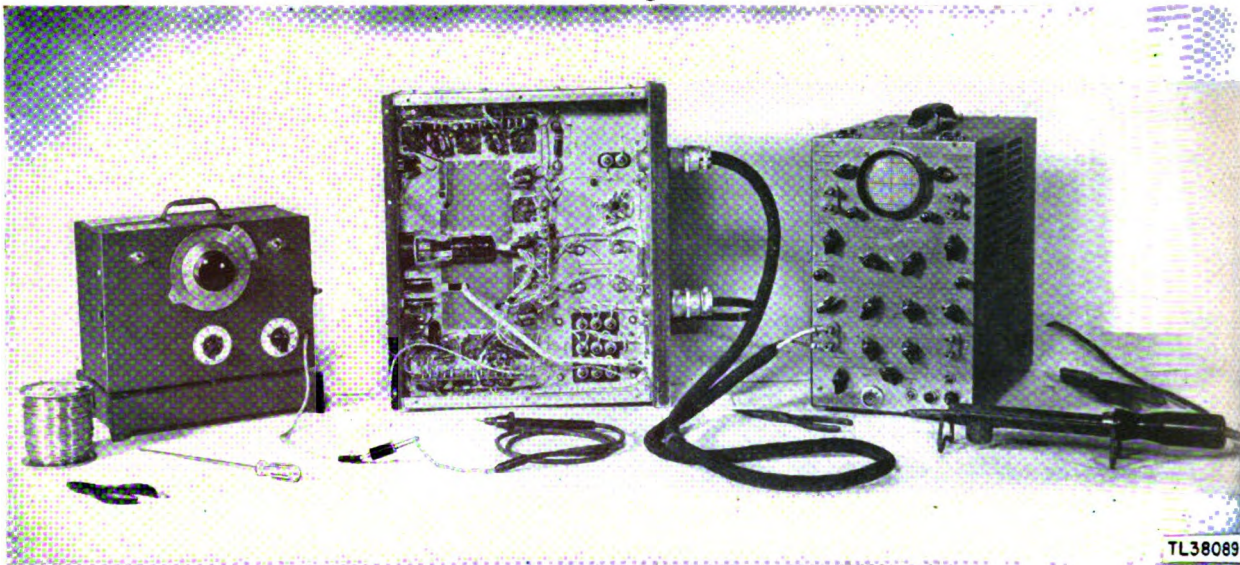

Figure 106. Receiver, set up for signal substitution.
(2) *Connecting equipment for signal substitution.* (a) Plug the line cord from the signal generator into the 110-120 volt a-c outlet (fig. 106).